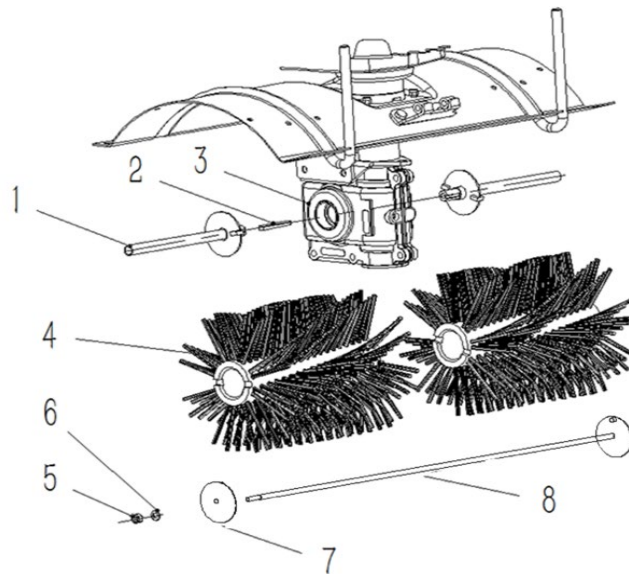

Figure 3
2.3 Install the Sweeping Brush: Fit the flat key 8x7x80 (2) into the keyway of the worm gear box (3); align the column brush link (1) to the flat key and then install it into the worm gear box (3); mount the sweeping brush (4) onto the column brush link (1); pull the sweeping brush drawbar (8) into the inner hole of the column brush link (1); pad both sides of the sweeping brush (4) with fixing plate (7) and flat gaskets $\Phi 12 \times \Phi 24 \times 2$ (6), respectively; and tighten up with hex lock nuts M12 (5). (See Figure 3)